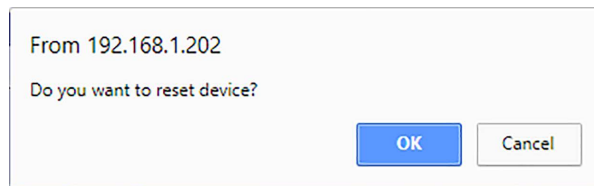

Figure 5-41 - Reset Device Dialog
3. Click **OK** to continue. The following dialog appears (see Figure 5-41):